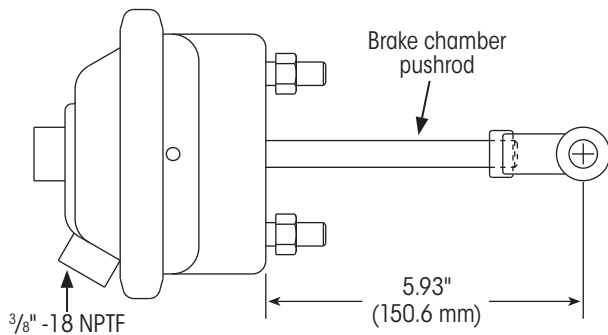

Figure 31: Brake chamber free length
1. **Measure** the brake chamber pushrod (Figure 31).